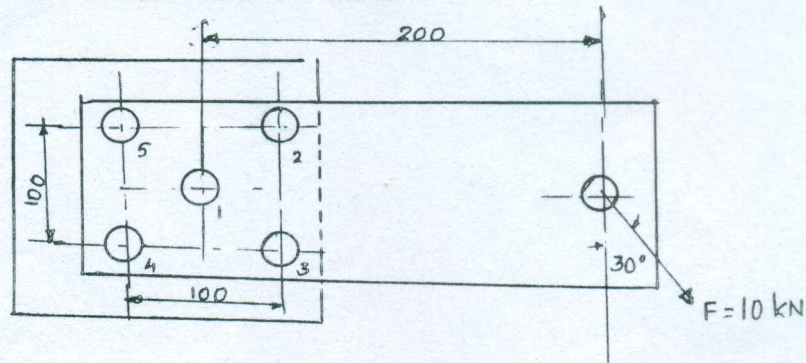

Fig.Q7(b)
- b. Determine the size of rivets required for the bracket shown in Fig.Q7(b). Take permissible shear stress for the rivet material as 100 MPa.